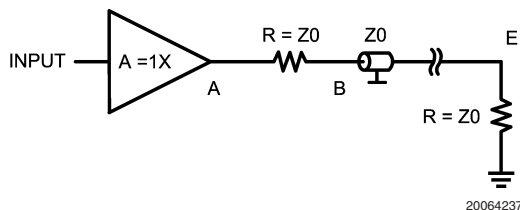

FIGURE 1.
- Use one buffer to drive one transmission line (see *Figure 1*)
Many applications, such as video, use a series resistance between the driver and the transmission line (see Figure 1). In this case the transmission line is terminated with the characteristic impedance at both ends of the line. See Figure 6 trace B. The voltage traveling through the transmission line